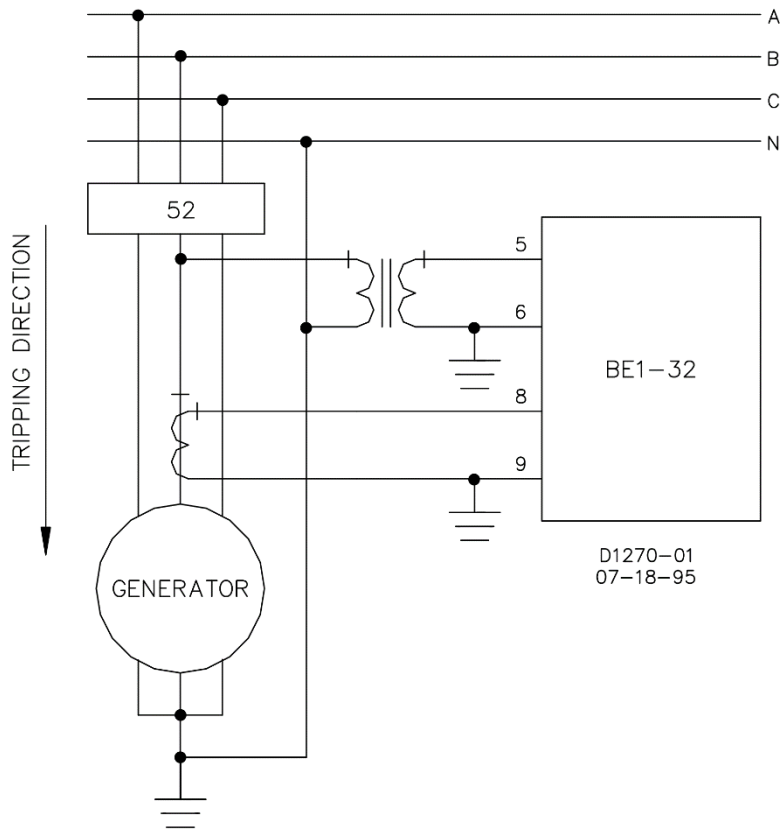

Figure 4-27. Type A Sensing Connections
- Sensing input connections: Figures 4-27 through 4-33